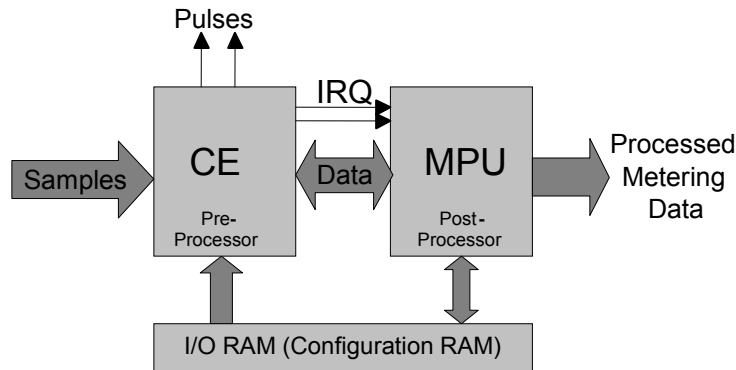

Figure 26: MPU/CE Data Flow
The data flow between the Compute Engine (CE) and the MPU is shown in Figure 26. In a typical application, the 32-bit CE sequentially processes the samples from the voltage inputs on pins IA, VA, IB and VB, performing calculations to measure active power (Wh), reactive power (VARh),  $A^2h$  and  $V^2h$  for four-quadrant metering. These measurements are then accessed by the MPU, processed further and output using the peripheral devices available to the MPU.
Figure 26 illustrates the CE/MPU data flow.